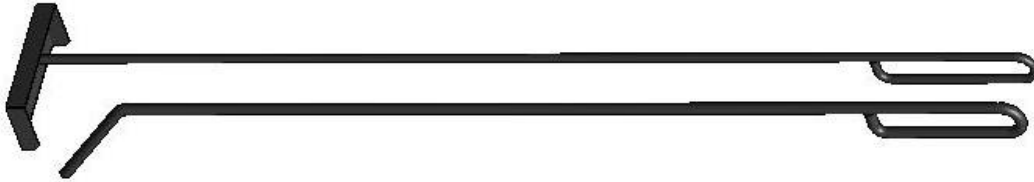

Figure 16. Shows equipment for maintenance
- When solid fuel is used a layer of soot and tar is deposited, relatively rapidly, in the boiler. Therefore everyday cleaning of ash and is recommended. Equipment which is supplied with the boiler shall be used for cleaning and maintenance of the boiler (**figure 16**).